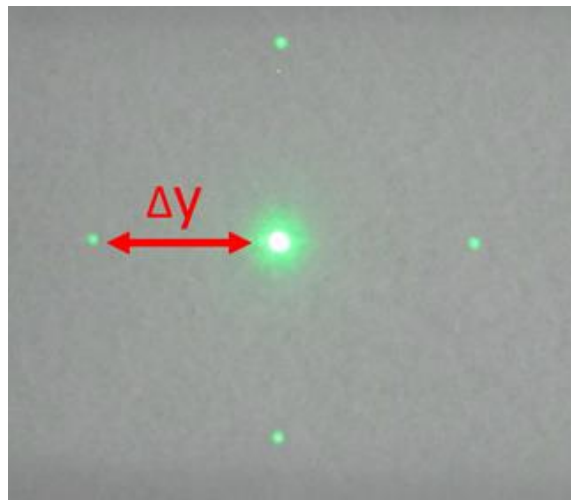

Figure 5
4. The spatial light modulator can produce diffracted light beams of several different orders even when it is not powered, as shown in Figure 5. Measure the distance Δy between the central bright spot and the bright spot of first order.